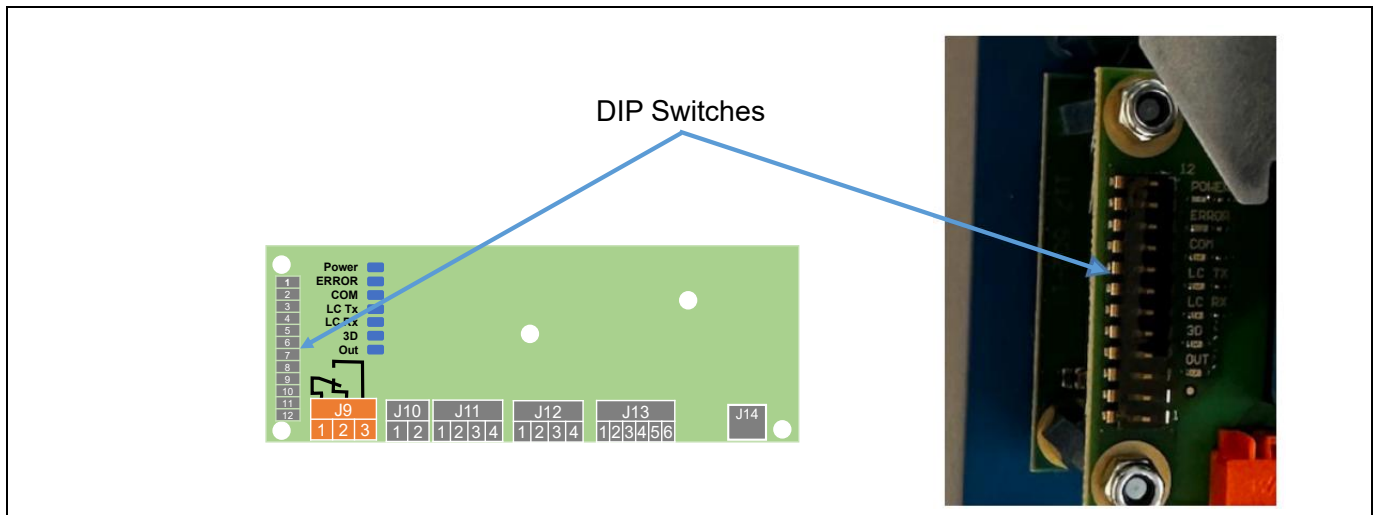

Figure 9: DiP switch location on sensor connection PCB and on the extension PCB
The cegard/Smart system is configured using twelve (12) DIP switches. The DIP switches are located on the sensor connection PCB as shown in Figure 9 below. For light curtain only (2D) operation, refer to Chapter 7.5.